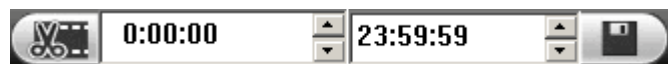

Figure 5-96
- In this following figure, input start time and end time. See Figure 5-96. Click save button .